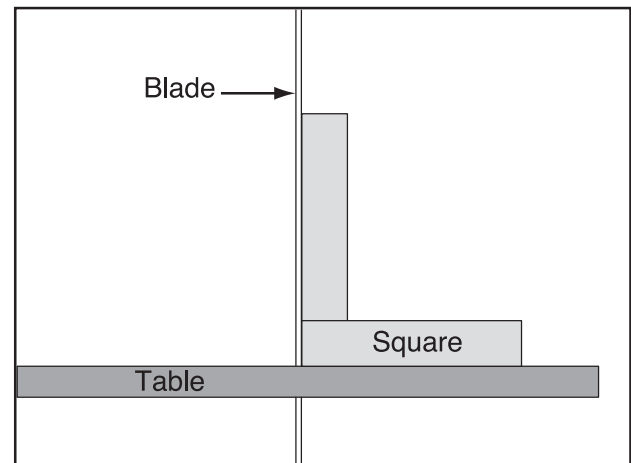

Figure 26. Squaring table to blade.
4. Raise the guide post and place a machinist's square on the table next to the side of the blade as illustrated in **Figure 26**. Adjust the table square with the blade, then secure with the table tilt lock lever (**Figure 59**) on **Page 41**.